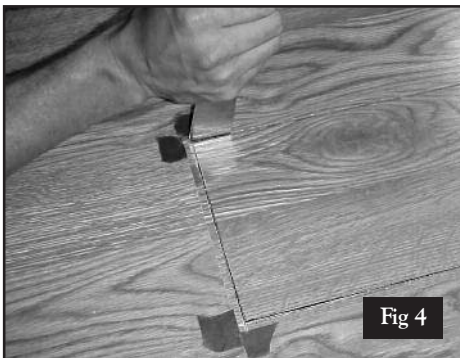

Fig 4
5. To allow for the removal of the interior cut plank/tile, use a stiff putty knife on each side of the four corners. Using a hammer gently tap the putty knife to break through the bottom backer of the plank/tile to allow for removal (see Fig. 4). Using the putty knife, lift and carefully pry upward to remove the interior cut damaged plank/tile. CAUTION: Be careful not to damage the factory edges of the surrounding planks.